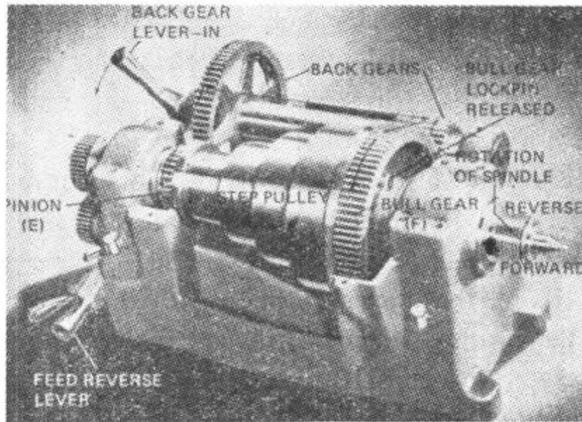

Fig. 3 A flat belt-driven lathe. The use of the back gears reduces the speed and increases the power.
1. *Flat belt drive*. On most belt-driven lathes, direct drive power is delivered through belts to a step pulley attached to the spindle.^⑦ The spindle speed is changed by moving the belt to different positions on the step pulley.^⑧ To obtain slower speeds and more power, back gears are used (Fig. 3).
To understand how the back gears operate,^⑨ study Fig. 3. Notice that gear F is fastened securely to the spindle. This
① **locked into position**: (被)锁定就位; 被固定在应有的位置上。 ② **by turning a series of cams**: 用转动一组凸轮的方法。 **by**: 用...方法。动名词短语 **turning ... cams** 是 **by** 要求的。 ③ **with a key attached**: 上面装有一根键。是“with + 名词 + 过去分词”结构, 说明 **long taper**。 ④ **an internal threaded collar**: **with** 要求的, 与 **a key attached** 并列。 ⑤ **with the spindle ... direction**: 不论主轴是正转还是反转。是“with + 名词 + 现在分词”结构, 表示附带情况。 **turn in ... direction**: 朝...方向转。 **either**: 两者中任何一个。 ⑥ **for driving the spindle**: (用来)驱动主轴的。说明 **power**。 ⑦ **attached to the spindle**: 安装在主轴上的。过去分词短语说明 **step pulley**。 ⑧ **by moving ...step pulley**: 通过把皮带移动到塔轮的不同位置上。表示方法。 ⑨ **how the back gears operate**: 背轮是如何作用的。名词副句, 做 **understand** 的宾语。